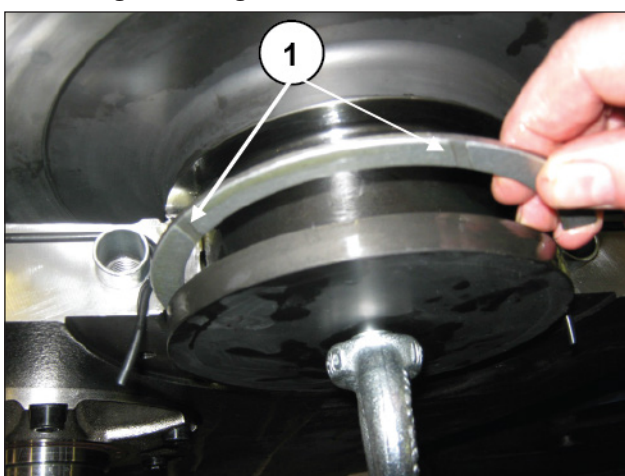

Fig. 101
The clearance rings must be fitted taking care to position the grooves facing the internal and external shoulders of the crankshaft (pos. ①, Fig. 99 and Fig. 101).